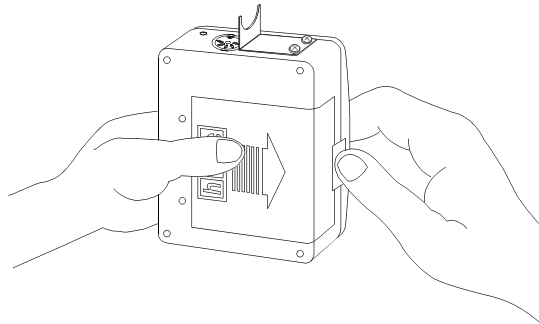

Figure 17. Opening the battery compartment
- ! To remove the battery from a Communicator, slide the battery latch open and push the battery in the direction of the large arrow on the battery as shown in Figure 17.